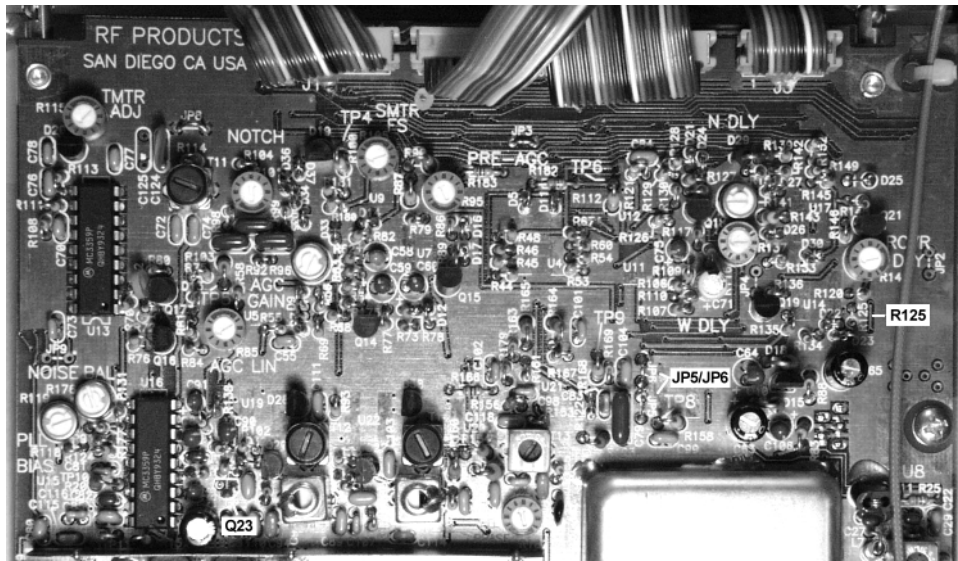

Figure 1 - Modified DFP/DFR-1000 IF Board (component side)
- 6__ Using Figure 1 as a guide, locate R125 (a stand-up 1/8 watt 10k stand-up resistor with a silk-screen label). Using a long-nosed plier, remove this resistor by gently bending it side-to-side until its leads break. Carefully inspect the remaining wire lead stubs to verify that they are not shorting each other or adjacent component pads or leads.
- 7__ Using Figure 1 as a guide, locate Q23 (a 2N4124 plastic transistor with a silk-screen label located to the right of U16). Using a long-nosed plier, remove this transistor by gently bending it side-to-side until its leads break. Carefully inspect the remaining wire lead stubs to verify that they are not shorting each other or adjacent component pads or leads.
- 8__ Using Figure 1 as a guide, locate JP5 and JP6. Cut the wire bridging JP5's two pads and solder an uninsulated wire jumper between the two pads of JP6. Carefully inspect JP5 to verify that the wire is completely cut and the remaining stubs not shorting each other or adjacent component pads or leads. Trim the protruding wires from the circuit side of the board underneath JP6 as required.